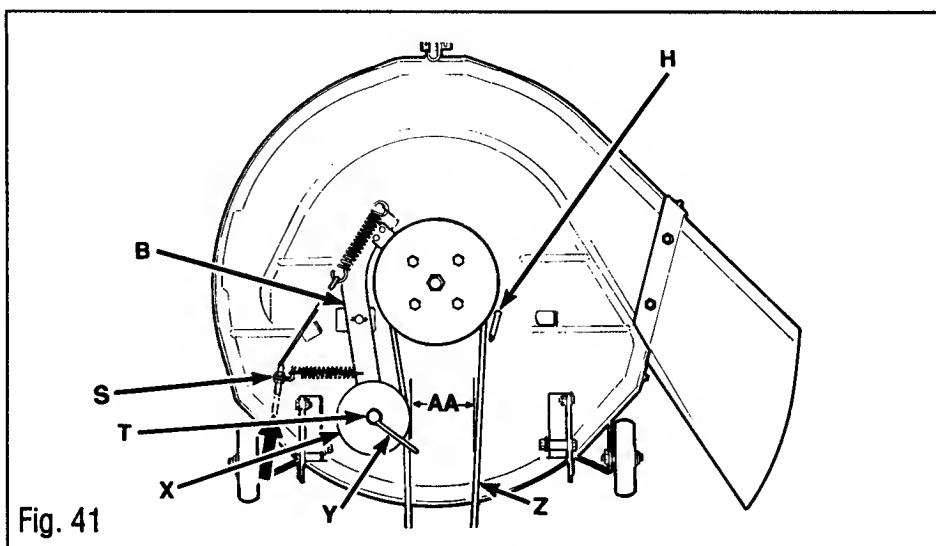

Fig. 41
3. Remove the belt from the engine pulley (B). It may be necessary to turn the differential to remove belt.
4. Remove hitch pins (C) and disconnect lift rods (D).
5. Remove hitch pins and disconnect pivot rods (F) from lift plate.
6. Disconnect mower drive cable cable (S, Figs. 41, 42 & 43 on the following pages) from spring (H). Loosen nuts securing cable to cable support (See Fig. 40). Remove cable from deck.
1. Remove belt guide (P, Fig. 39) and loosen guides (Y & H, Fig. 41 on following page).
2. Rotate idler arm (B, Fig. 41) away from mower sheave and remove old belt.
3. Install new belt (Z) under belt guide (Y) on pulley (X).
4. Re-tighten idler pulley bolt (T). Make sure guide (Y) is in approximate position as shown.